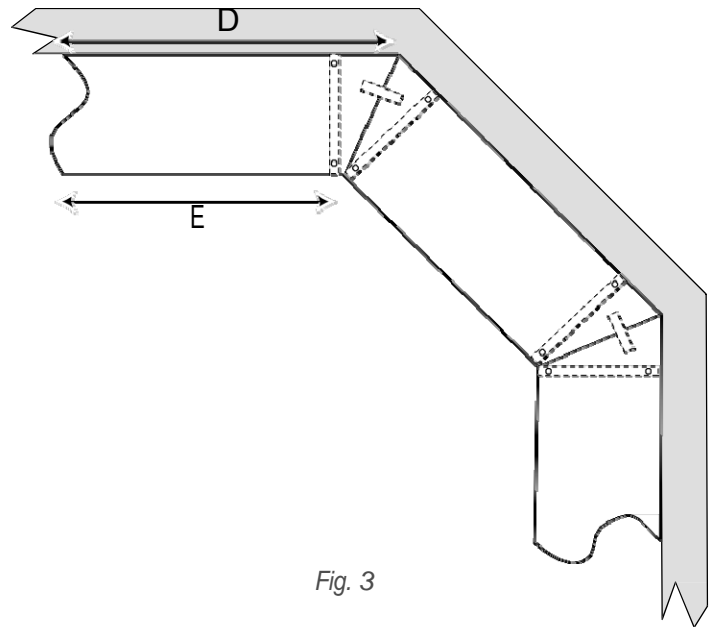

Fig. 3
7. Measure along one wall to the corner of the angled wall (distance "*D*" *Fig. 3*). Then measure *in front of* the towers to the corner of the partitions (distance "*E*" *Fig. 3*). (The measurement difference would be approx. $5\frac{3}{4}$ " for distances "*A*" and "*B*" on *Fig. 1.*)
10. Attach one mending plate at each angled top shelf joint from above. (See *Fig. 3.*)